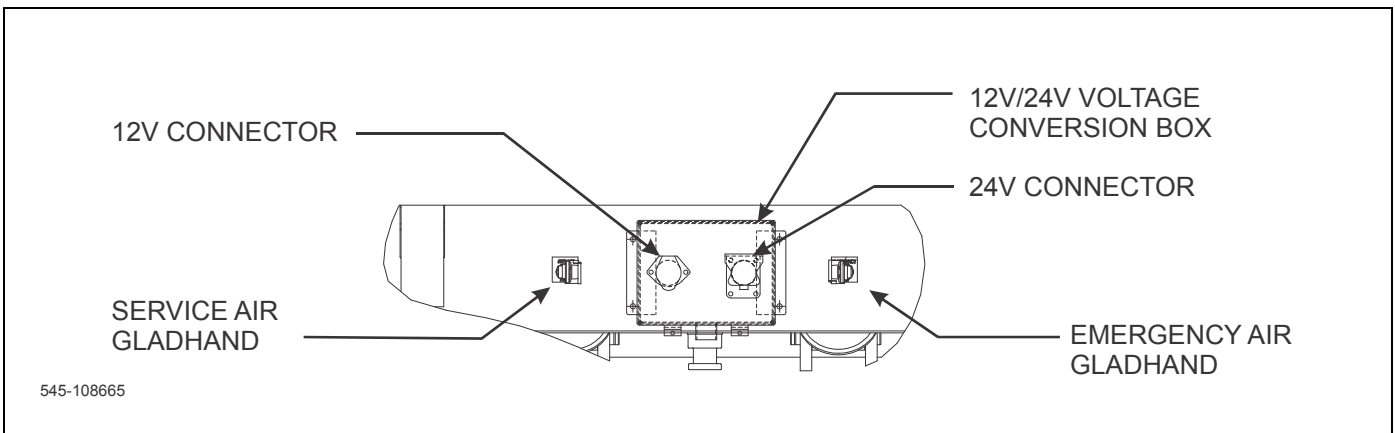

Figure 3-2: Service Hookups
3. Connect the service and emergency air hoses of the towing vehicle to their respective gladhand on the front of the semitrailer; red emergency line to the gladhand with the "**EMERGENCY**" tag, and the blue service line to the gladhand with the "**SERVICE**" tag **(See Figure 3-2.)** Chock the semitrailer wheels before activating the semitrailer air supply valve in the towing vehicle. Set the parking brakes.
1. Connect the towing vehicle 12 volt 7-pin or 24 volt 12-pin electrical plug to the electrical receptacle on the front of the semitrailer (See Figure 3-2.)